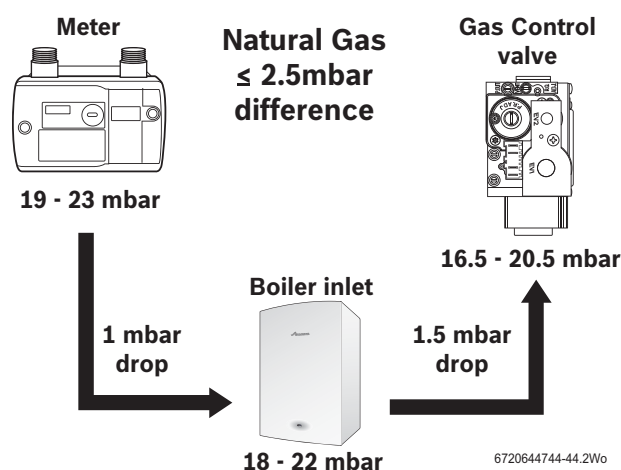

Fig. 65 Natural gas pressures
- ▶ Check the gas supply working pressure at the gas valve conforms to values shown in Fig. 65.